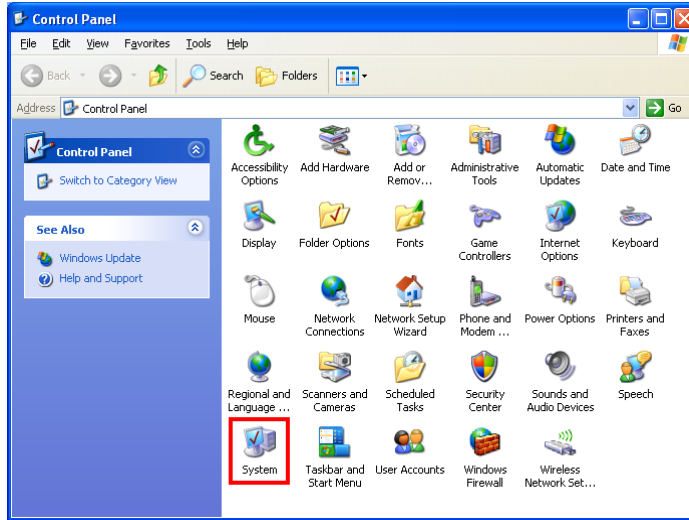

Figure 7-4: Double Click the System Icon
Step 2: Double-click the **System** icon (Figure 7-4).